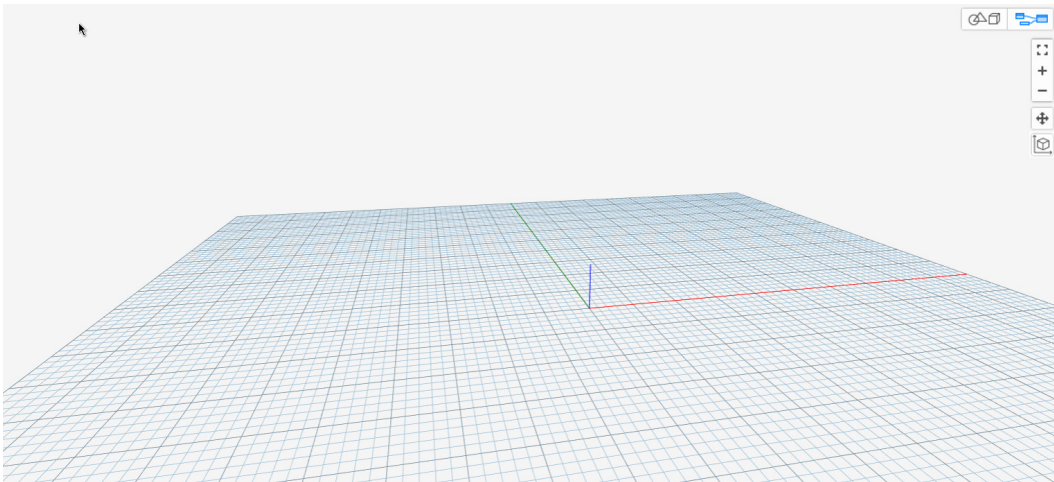

Figure 12.9 – Dynamo for Civil 3D graph view
- Our graph view is where we'll build out our scripts to be applied to our design files, as shown in *Figure 12.9*.